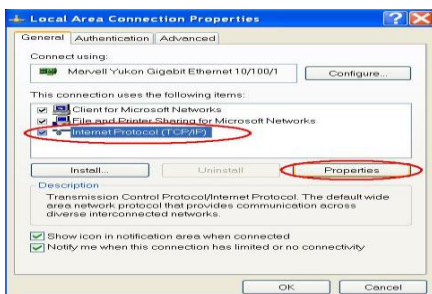

Figure A-5
**Step 4:** When the **Local Area Connection Properties** dialog box shows up, choose **Internet Protocol (TCP/IP)** and click **Properties**. See Figure A-5.